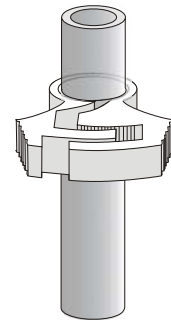

Figure 2
2. Slip a plastic tubing clamp onto a 36-42 cm piece of plastic tubing as shown in Figure 2.